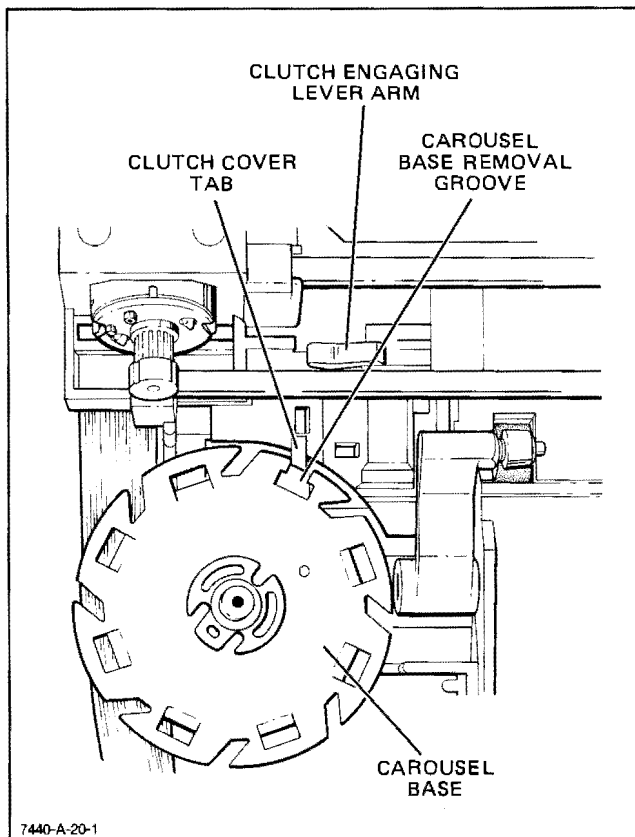

Figure 6-12. Left Pinch Wheel Arm Removal, Detail A
- e. Press the clutch engaging lever arm to the left. See Figure 6-12, Detail A.
- f. Rotate the carousel base counterclockwise until the carousel base removal groove is directly under the clutch cover tab. See Figure 6-12, Detail A.